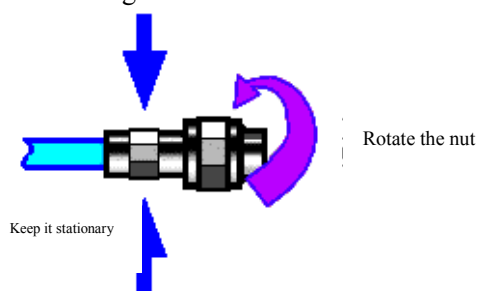

Fig. 2.5 Connection Method
Step 2. As shown in Fig. 2.5, horizontally move the two connectors together to make them connected smoothly. Tighten the connector nut by means of rotation (do not rotate the connector). Avoid relative rotation of connectors during connection.